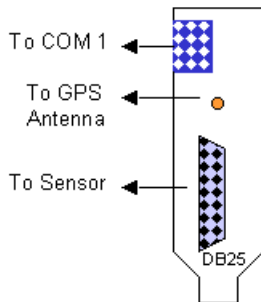

Figure A1. Side view of the circuit board.
3. There are three connectors on the side of the circuit board (See Figure A1). Use the provided ribbon cable to connect the top connector and the COM 1 port on PC.